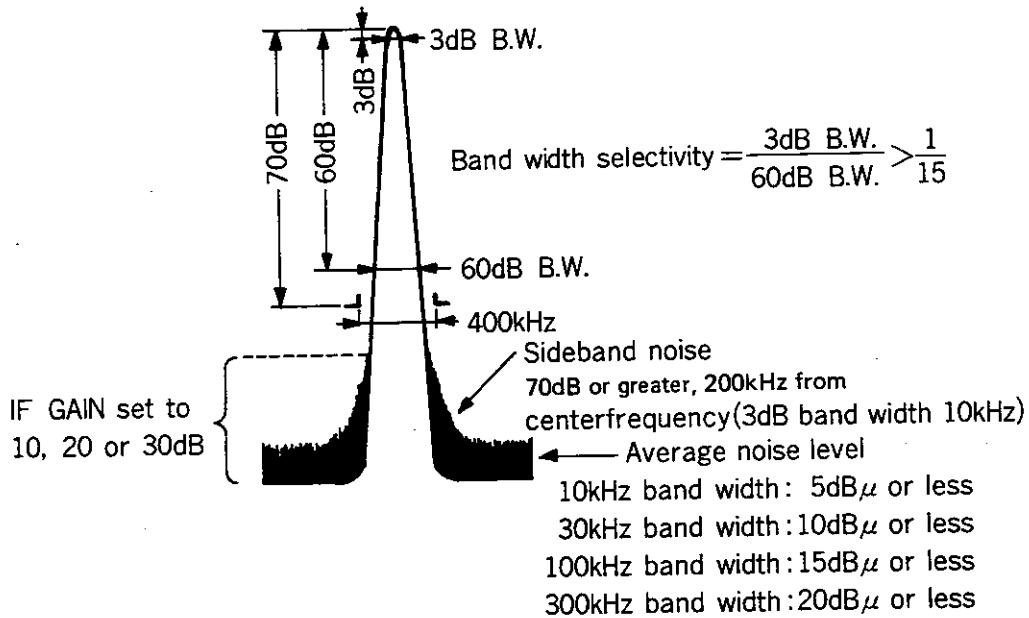

Fig. 2-17 Separation of Signals of Different Amplitude
(6) Besides IF bandwidth selectivity, there is sideband noise which is also related to the ability to separate signals of different amplitude and adjacent frequencies. Sideband noise is the noise appearing at the skirt of IF filter as shown in [Fig. 2-17] and affects the resolution when observing signals of different amplitudes.